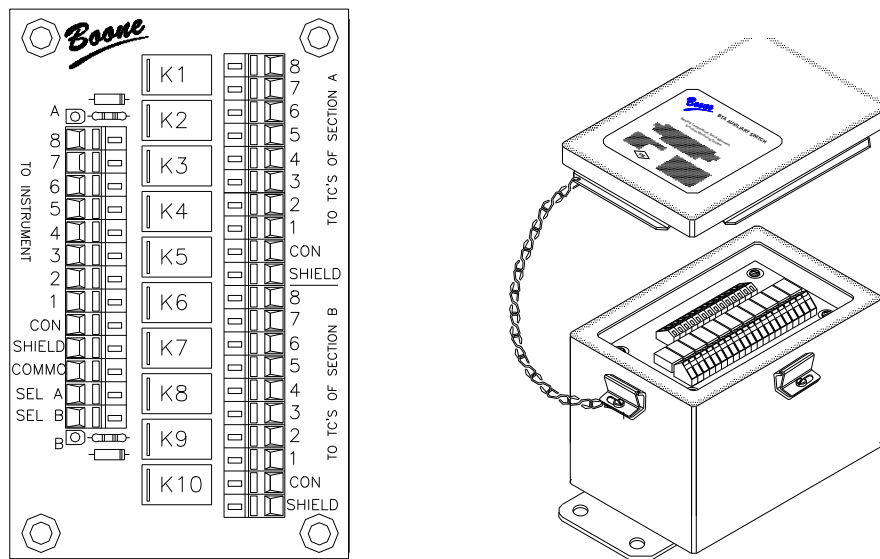

Figure 7. Auxiliary Switch with Auxiliary Bearing Board
6.1. AUXILIARY SWITCH These are used to minimize the amount of wire and cable necessary by eliminating redundant runs. A full temperature system can keep track of 256 separate thermocouple sensors. Only one Group (or section) of eight is connected to the Instrument at any one time. The switch is an enclosure that holds one or more of the Auxiliary Bearing Boards. See Figure 7
6.1.2. Auxiliary Bearing Board (200052), These boards (Figure 7.) contain the switching for two *Auxiliary Sections*, labeled: *SECTION A*, *SECTION B* on the board. Each group can switch 8 Thermocouple sensors. (See Figures. 7 & 12). Each BTA Auxiliary Bearing Board has two Sections marked "Group A" & "Group B". Each of these two Sections can service 8 Thermocouples. Therefore we dedicate one 8-TC Shielded Leadwire Cable for each Section A & B. Each Cable consists of a white constantan wire and 8 individually colored copper wires. Each 8-TC Cable can bring the thermocouple signals from as many as 8 sensors back to either the "A" or "B" side of the board. Never split the sensors from one 8-TC Cable between both groups on the board. This would require that both groups share the constantan and will result in temperature reliability problems. It is much easier to do this correctly at first than to try to troubleshoot the problem later.
Control Wire runs from the BTA Instrument to the Remote Auxiliary Boxes and between each subsequent Remote Aux. See Figures 7 & 8.